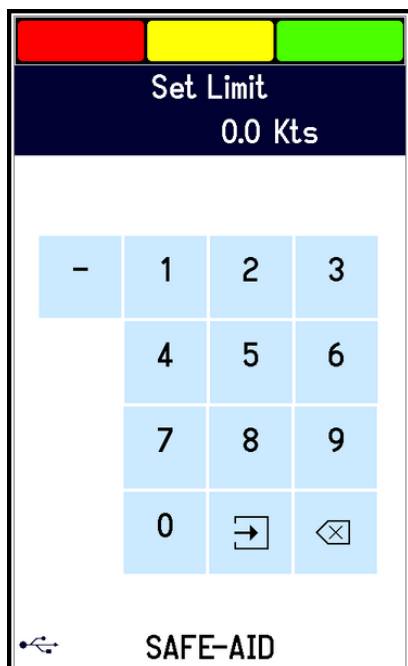

Figure 23
- Enter the four digit password [- - -] followed by the **Enter** button the Set Limit screen will be displayed (figure 23).